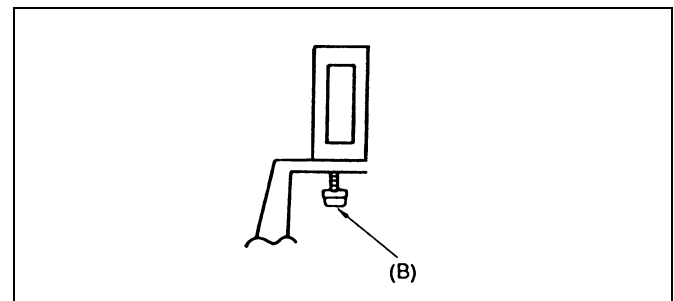

Figure 7-8-2 Full Erase Head Removal
4. Remove screw (B) as shown in figure 7-8-2. And remove head.